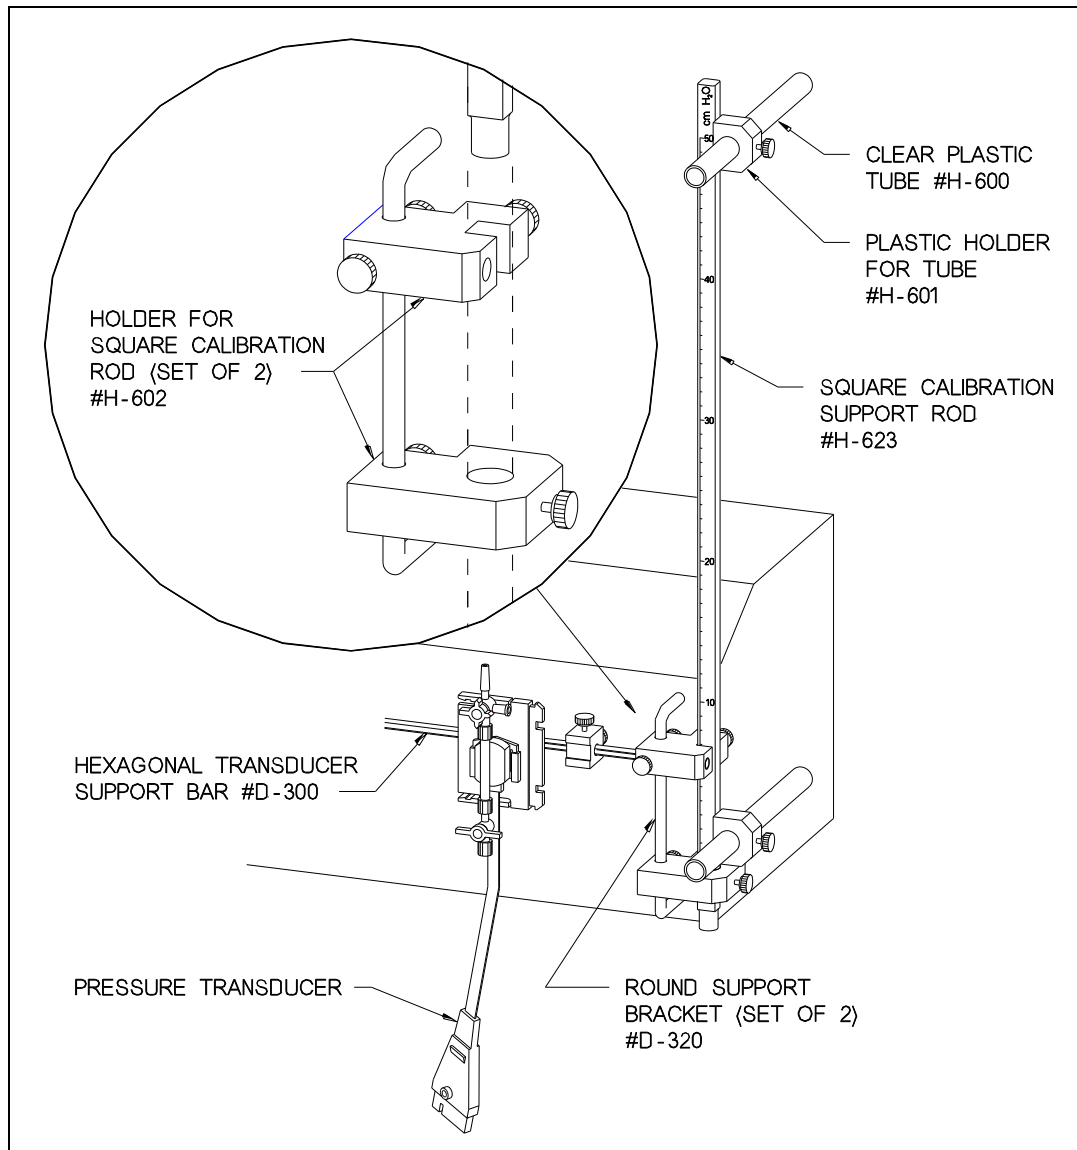

Figure 11: Hydrostatic Calibration System (0–50/68 cm H₂O)
- On the square calibration rod locate the two white plastic tube-holders. Slide a clear plastic 11-inch tube into the hole of each tube-holder as shown in Figure 11, below. Tighten the knurled screw to secure the clear plastic tube.
- Slide the square calibration rod into the two calibration rod holders on the right-hand round support bracket. The clear plastic tubes should be oriented perpendicular to the pump as shown in Figure 11. The lower clear plastic tube should be at the same level as the transducers for 0 cmH₂O or low calibration. The upper plastic tube is for 50 or 68 cmH₂O for high calibration (68 cmH₂O = 50 mm Hg).